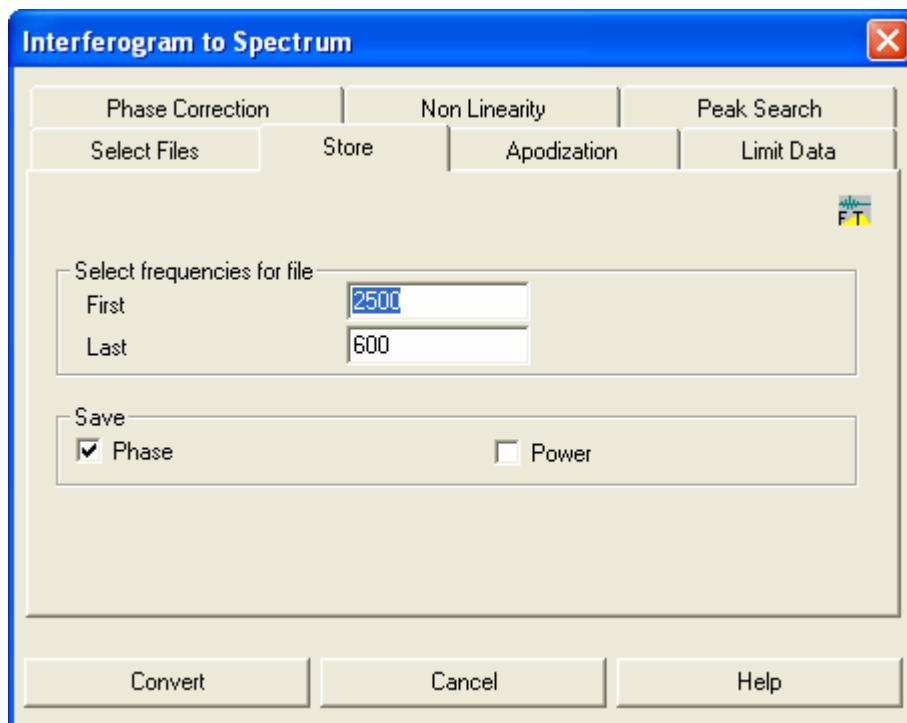

Fig. 19: "Interferogram to Spectrum" dialog window - "Store" page
- Click on the "Store". On this page you can choose the spectral range of the result spectrum. (See figure 19.) For polymer experiments, this is usually the fingerprint region. To be on the safe side, you can specify a somewhat broader spectral range as indicated in figure 19. It is extremely important that you activate the "Save phase" checkbox on the "Store" page. The resulting calibration phase spectrum of this "Interferogram to Spectrum" conversion will later be needed to evaluate the sample data. The power spectrum will not be needed, thus you do not have to activate the "Power" checkbox.